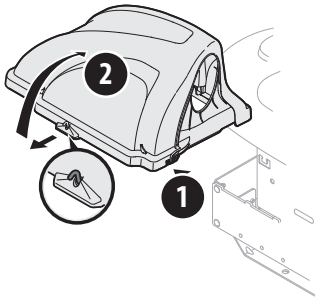

Figure 39
2. Open the grass catcher hood by pushing in on the rear, right-side tab with your right hand, as seen in (1) of Figure 39, and lifting the cover with your left hand in the center rear of the bagger cover (2).